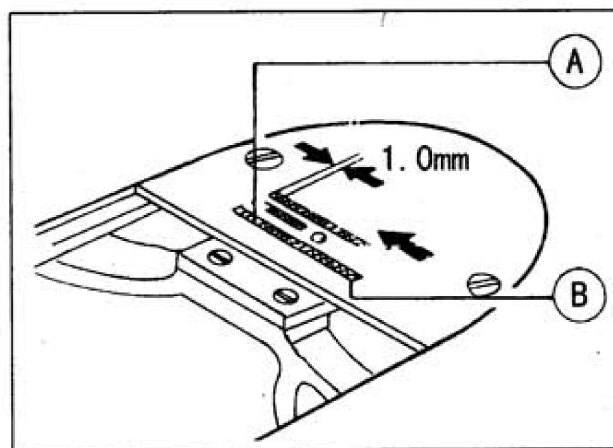

Fig. 24
19. ADJUST THE POSITION OF FEED DOG (Fig.24,25)
The standard position of feed dog is that the clearance between the front end of the throat plate slot and the first tooth of the fully advanced feed dog is 1 mm, as shown in Fig.24 .